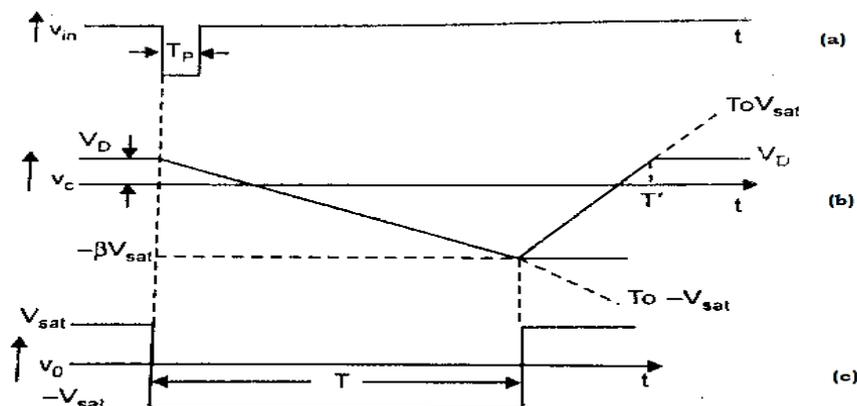

Fig. 3.35 (a) Negative going Trigger Signal (b) Capacitor Waveform (c) Output Voltage Waveform
- Various waveforms are shown in Fig.3.35 (a, b, c)
- It may be noted from Fig.3.35 (a) that capacitor voltage v_C reaches its quiescent value V_D at $T' > T$.